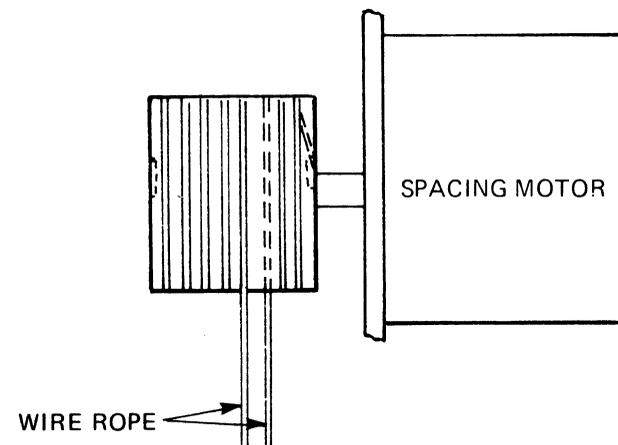

Figure 4-9 Wire Rope Placement
- e. Wind the wire rope on the left side of the carriage base around the upper left guide pulley (see Figure 4-9). Then insert the wire rope hook into the front slot of the drive pulley.